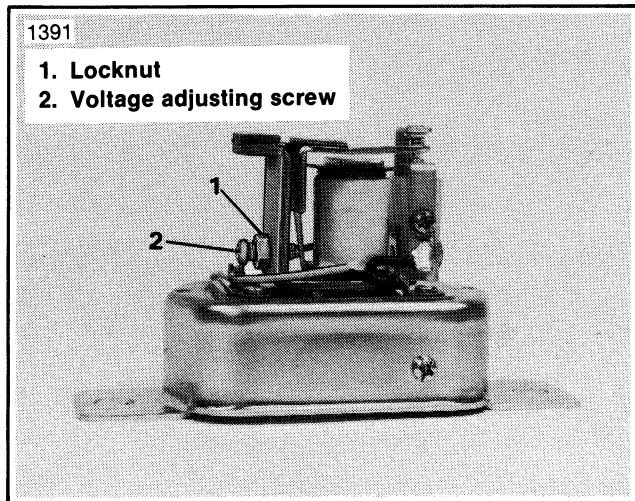

Figure 8-41. Adjusting Voltage Regulator
Adjusting Charge Rate (Figure 8-41)
4. See Figure 8-41. To adjust voltage regulator remove cover, loosen locknut (1) and turn adjusting screw (2) in (clockwise) to increase voltage or out (counterclockwise) to decrease voltage.